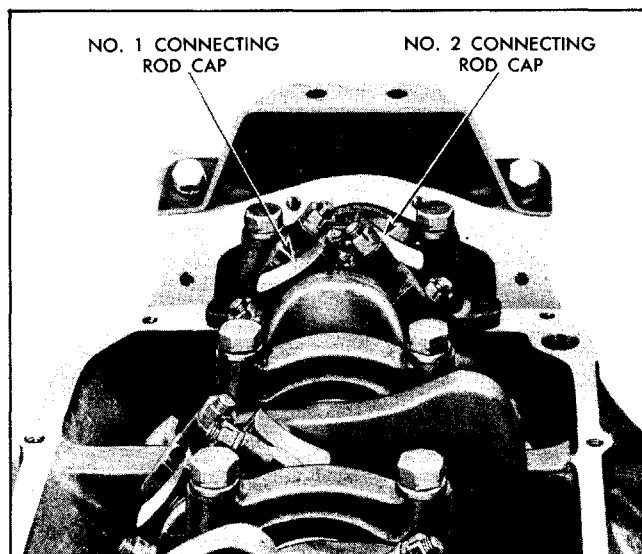

Fig. 6-32 Crankshaft Positioned for Removal of No. 1 and 2 Connecting Rod Caps
4. Rotate crankshaft so crank pin carrying assembly to be replaced projects straight downward (Fig. 6-32).
a. Turn crankshaft so that two opposite pistons are near bottom of stroke (Fig. 6-32). This will put